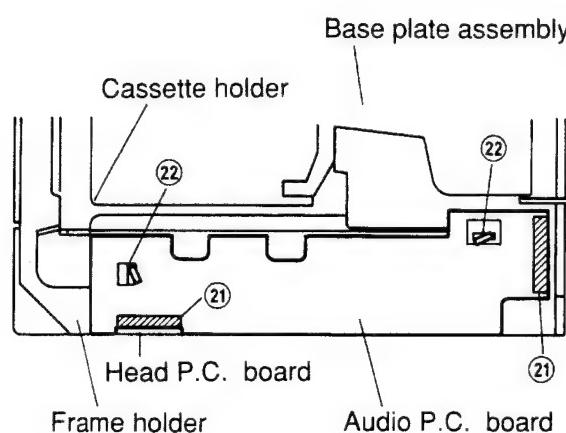

Figure 16
- (1) Remove two soldering points (21) and remove the parallel wire (7P) and the head P.C. board as shown in Figure 16.
- (2) Adjust the two claws (22) to the rectangular holes on the P.C. board and remove the P.C. board as shown in Figure 16.
- (3) After replacement, mount the new P.C. board following the removal steps in the reverse order.